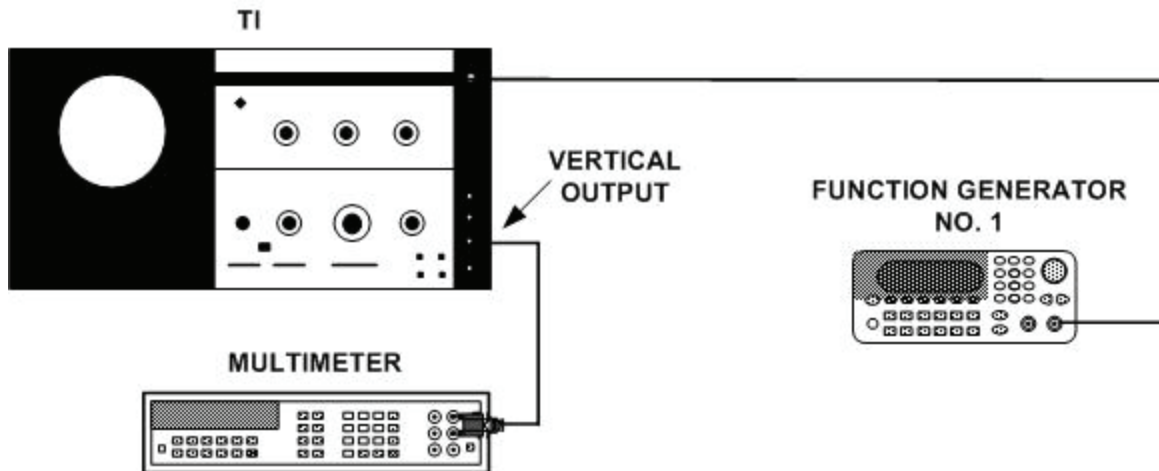

Figure 15. Frequency response - equipment setup.
(1) Connect equipment as shown in figure 15.